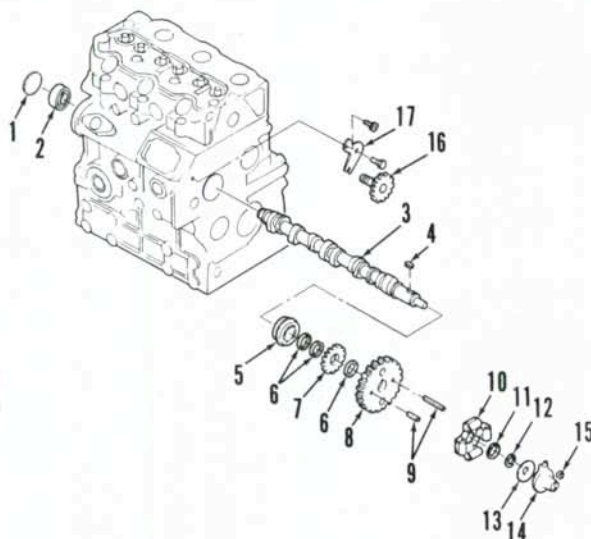

Fig. 68—Exploded view of camshaft and related components used on 1210 and 1310 models.
38. The camshaft can be removed without separating engine from transmission. However, if camshaft rear bearing (2-Fig. 68) is to be renewed, engine must be removed from tractor and clutch, flywheel and rear plate removed.